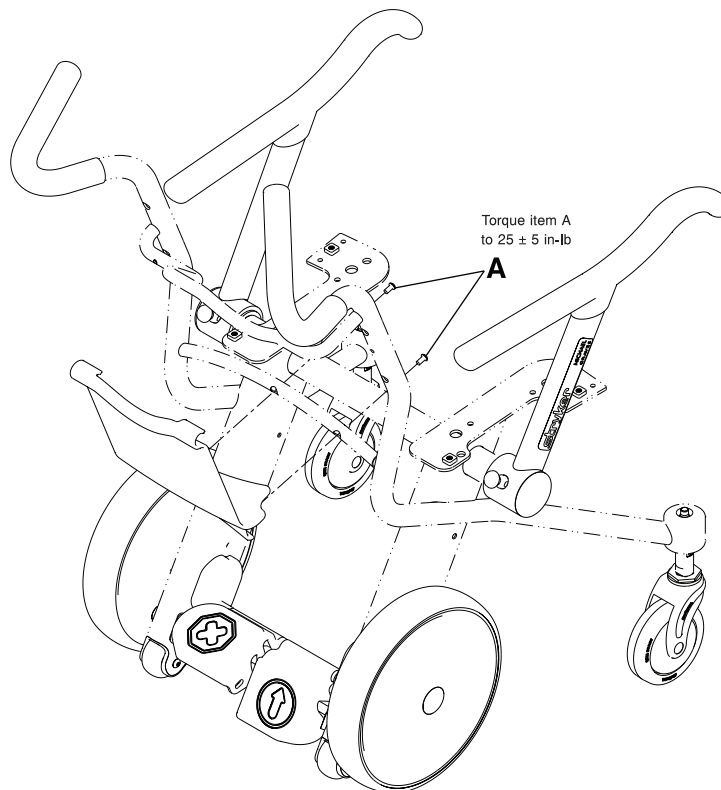

Figure 1-22: Chart holder replacement
3. Using a 5/32" hex wrench, remove the two button head cap screws (A) that secure the bottom of the chart holder to the chair frame (Figure 1-22 on page 1-38). Save the screws. When reinstalling the screws, use a 3/8" drive torque wrench to torque the screws to  $25 \pm 5$  in-lb.